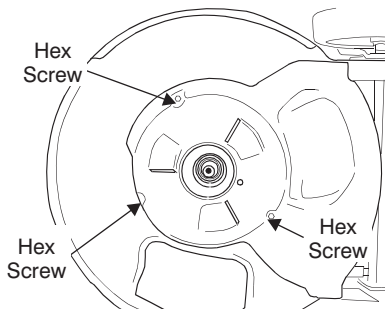

Figure 19
6. Using a 3/8" socket remove three hex screws holding the baffle to the deck. See Figure 19.